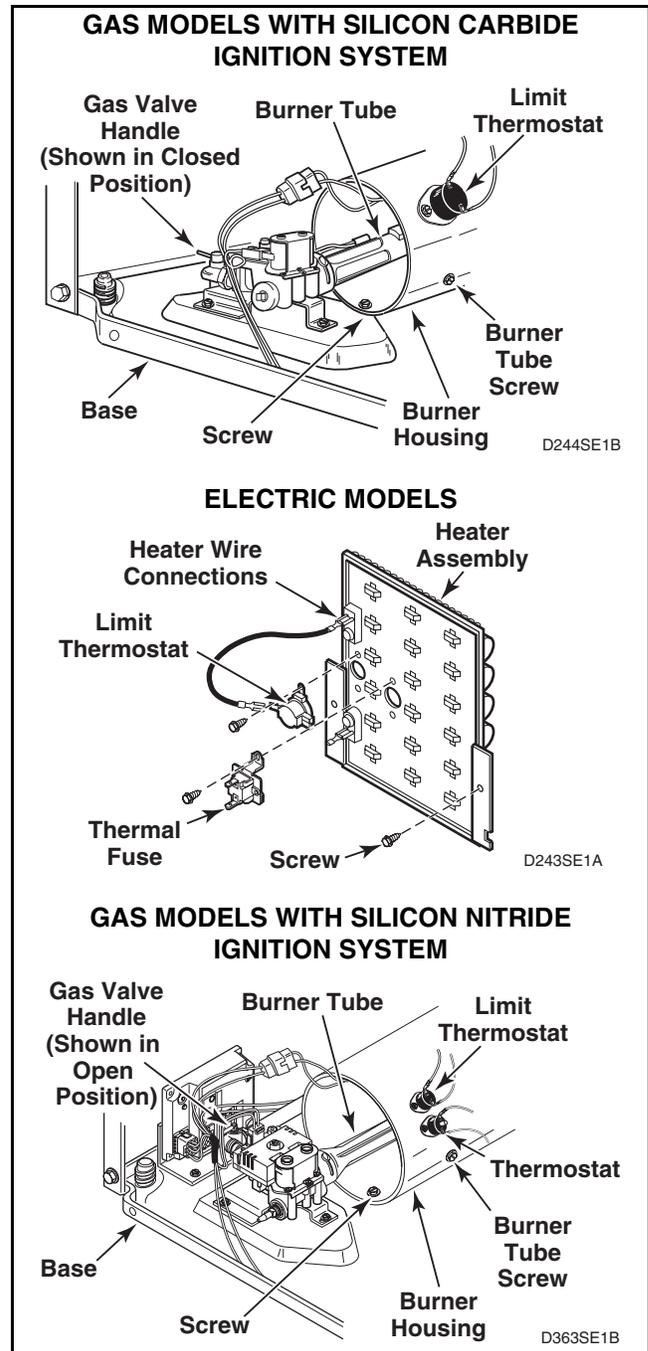

Figure 21
- (1) Remove one screw from right side of burner housing holding burner tube in place. Refer to *Figure 21*.
Silicon Nitride Ignition: Disconnect wire harness from igniter and sensor assembly and from gas valve coils at disconnect blocks. Refer to *Figure 21*.
- Remove screw from right side of burner housing, while holding burner tube in place. Refer to *Figure 21*.
- Remove screw holding front of burner housing to dryer base and remove housing out through front of dryer. Refer to *Figure 21*.
- Disconnect wires and remove screws holding limit thermostat to burner housing (gas models) or element plate (electric models). Refer to *Figure 21*.
- Disconnect wires from heater assembly. Refer to *Figure 21*.
- Remove two screws holding heater assembly to heater box and remove heater assembly out through front of dryer. Refer to *Figure 21*.